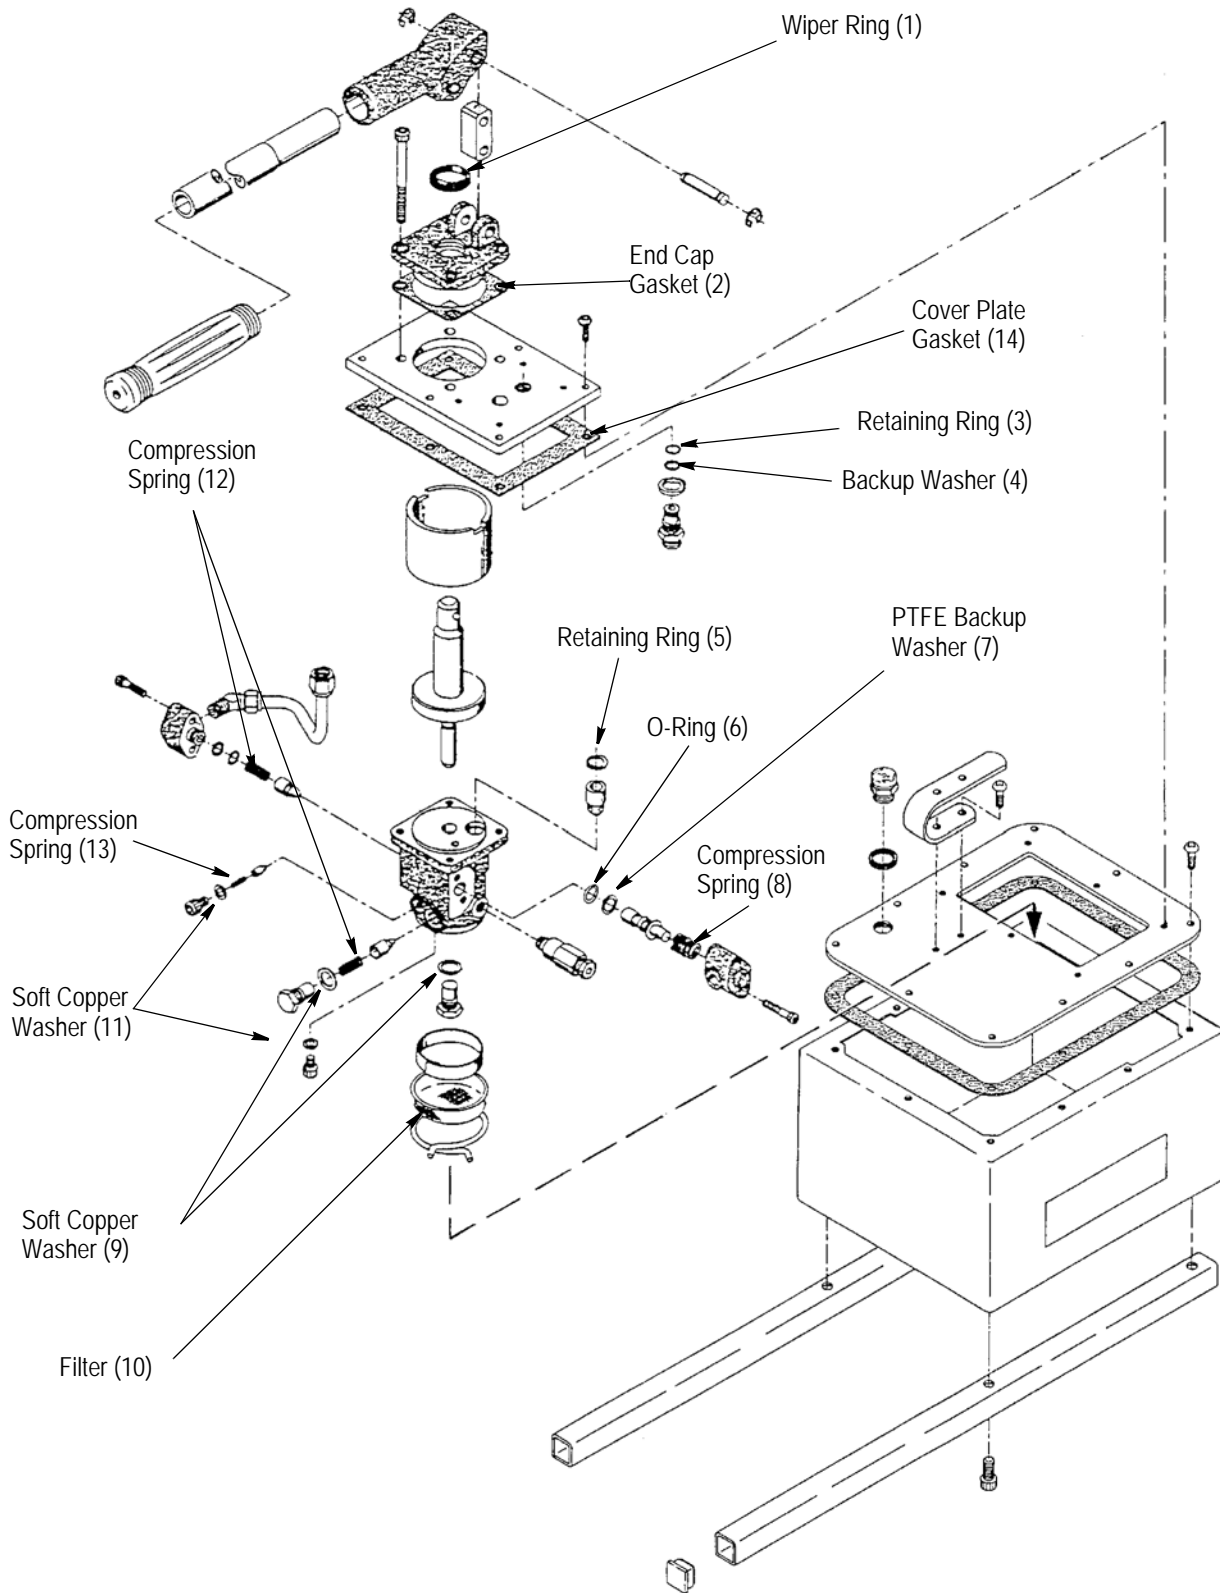

Figure 14
If, at any time, the pump does not function properly, the troubleshooting chart (Figure 9) and the rest of the material in Section 5 should be used to locate and correct the trouble. (Refer to Figure 14 for parts identification.)
5.6. Pump Maintenance (Refer to Figure 14)
5.7. Poppet Maintenance (Refer to Figure 14)
Figure 14 contains an exploded-view drawing of Hydraulic Hand Pump No. 314979-1, with references for items included in Repair Kit 314980-1. Refer to the parts list included with Repair Kit 314980-1 for part number and quantity information.
- A backup bushing in Figure 14 was referred to as a PTFE Backup Busing.